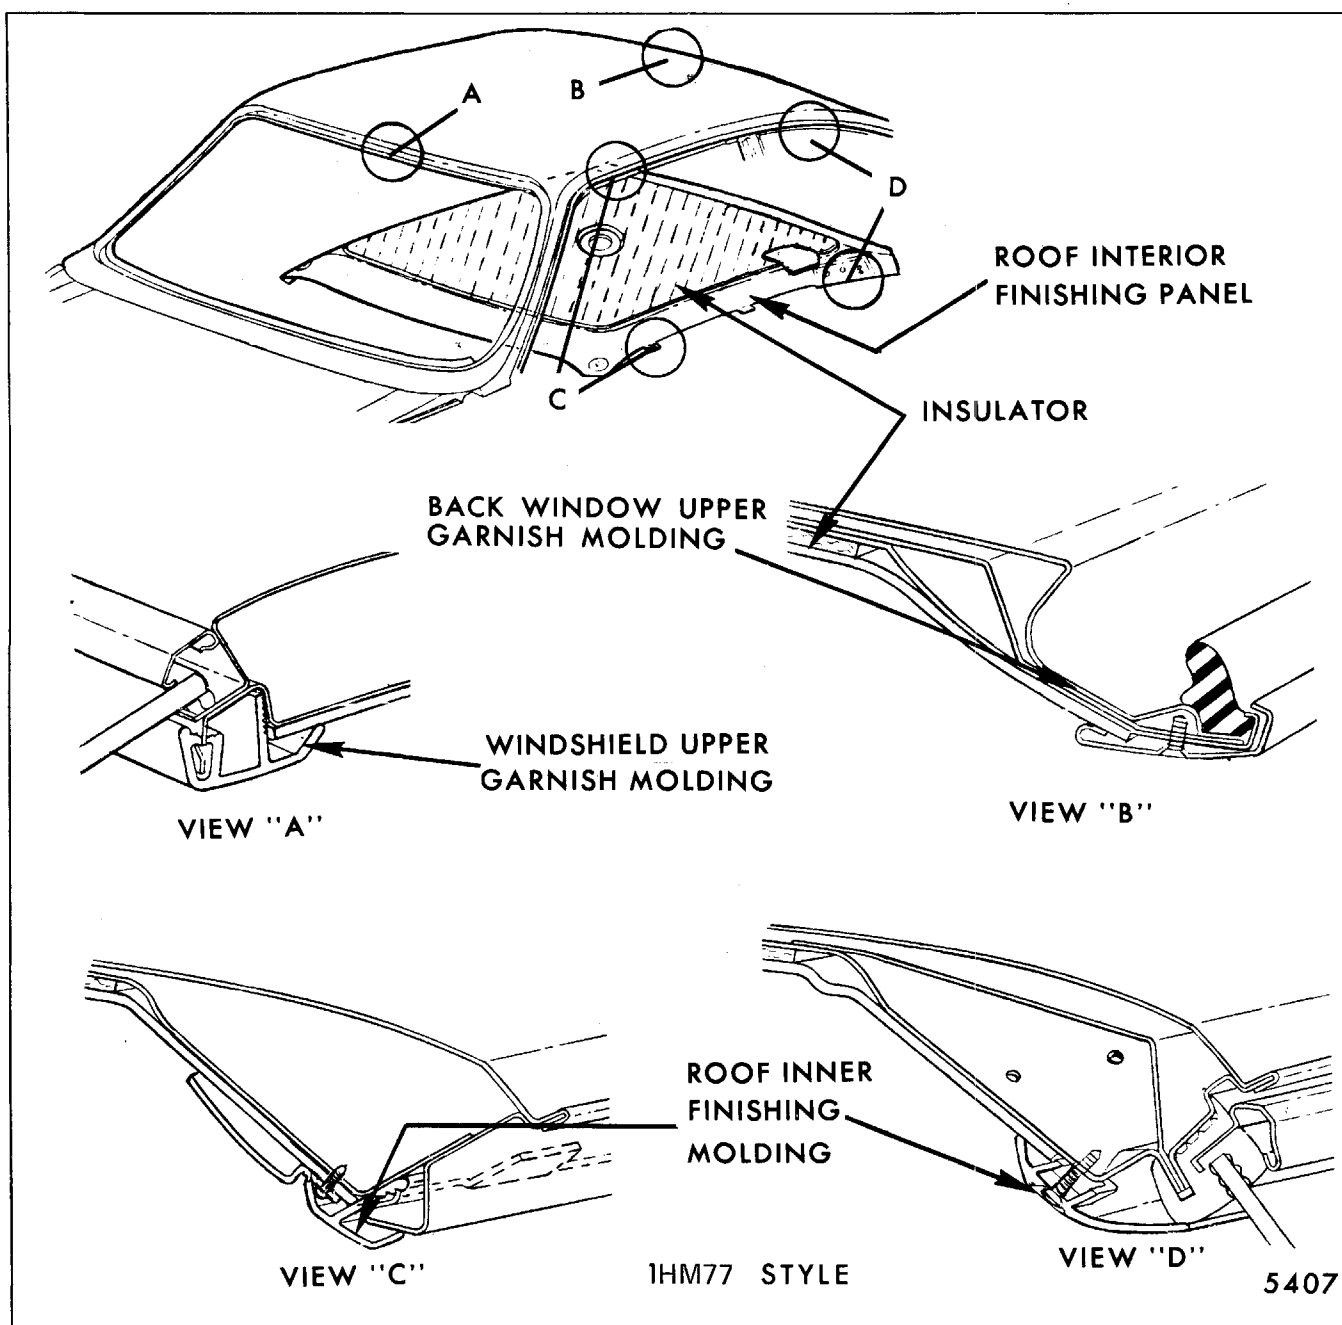

Fig. 8-8-Headlining (Roof Interior Finishing Panel) Assembly - 77 Styles (07 Styles Similar)
2. Disengage tabs or clips on each side of the headlining assembly from the attaching slots and move the assembly rearward enough to provide clearance for the front portion of the assembly to unload through front door opening (see Figs. 8-8, 8-9 and 8- 10). On B-35 styles, use tool J-2772 or equivalent at one end of the